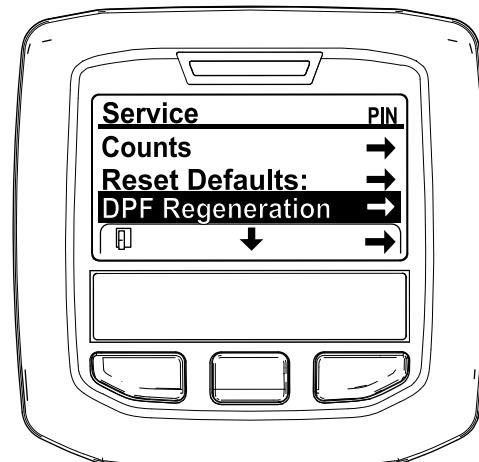

Figure 43
- In the SERVICE MENU, press the middle button until the DPF REGENERATION options displays, and press the right button to select the DPF REGENERATION option (Figure 43).